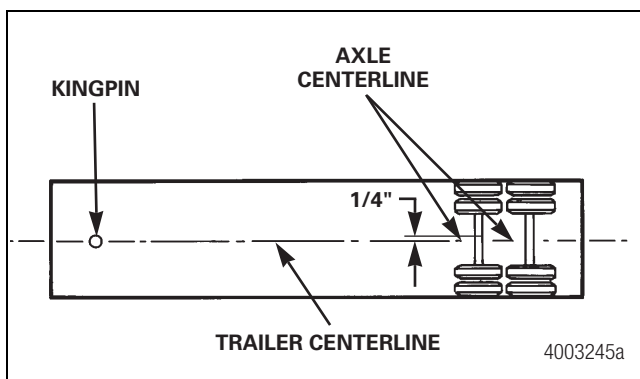

Figure 8.1
- An axle that is installed with its centerline located more than 0.25-inch (6.3 mm) from the trailer centerline. Figure 8.1.